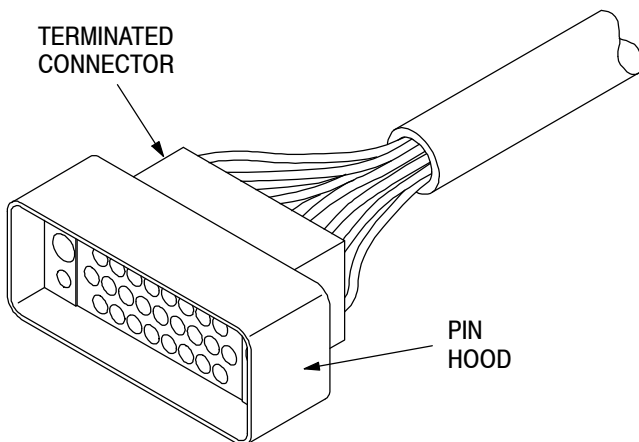

Figure 4
6. Slide the pin hood (if used) down to connector housing and align mounting holes. See Figure 4.